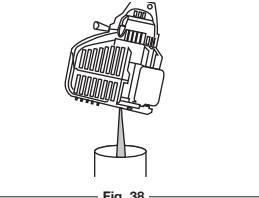

Fig. 38
- Pour the oil out of the oil fill hole and into a container by tipping the unit to a vertical position (Fig. 38). Allow ample time for complete drainage.